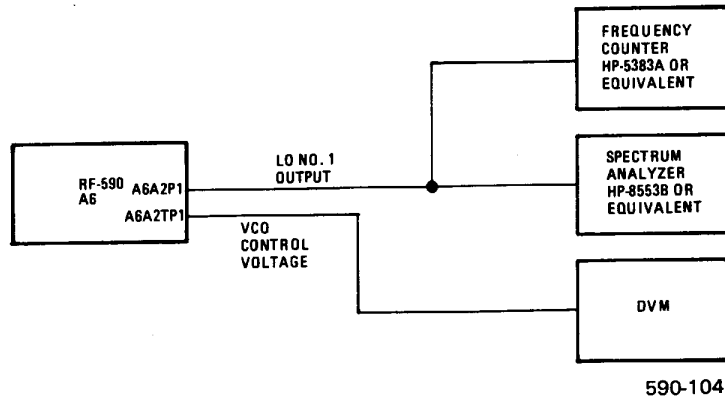

Figure 1. VCO Adjustment
- a. Connect equipment as shown in figure 1.